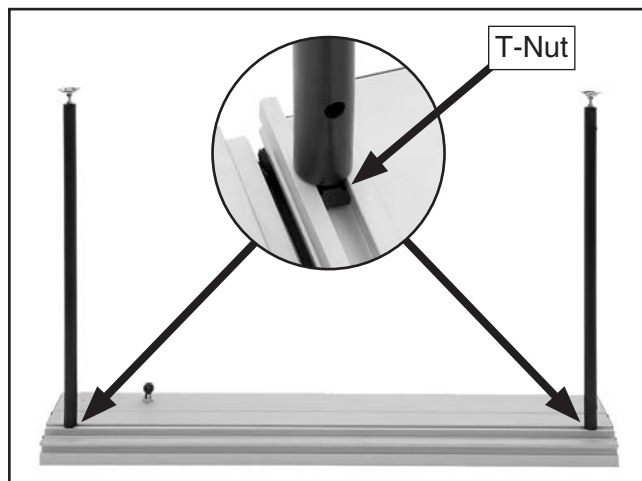

Figure 7. Support legs attached to the bottom of the sliding table.
4. Turn the sliding table upside down, slide the support leg T-nuts into the sliding table miter gauge slot (see **Figure 7**), then thread and hand-tighten the leg studs into the T-nuts.
Note: For the best support, position the support legs near each end of the sliding table, as shown in **Figure 7**.